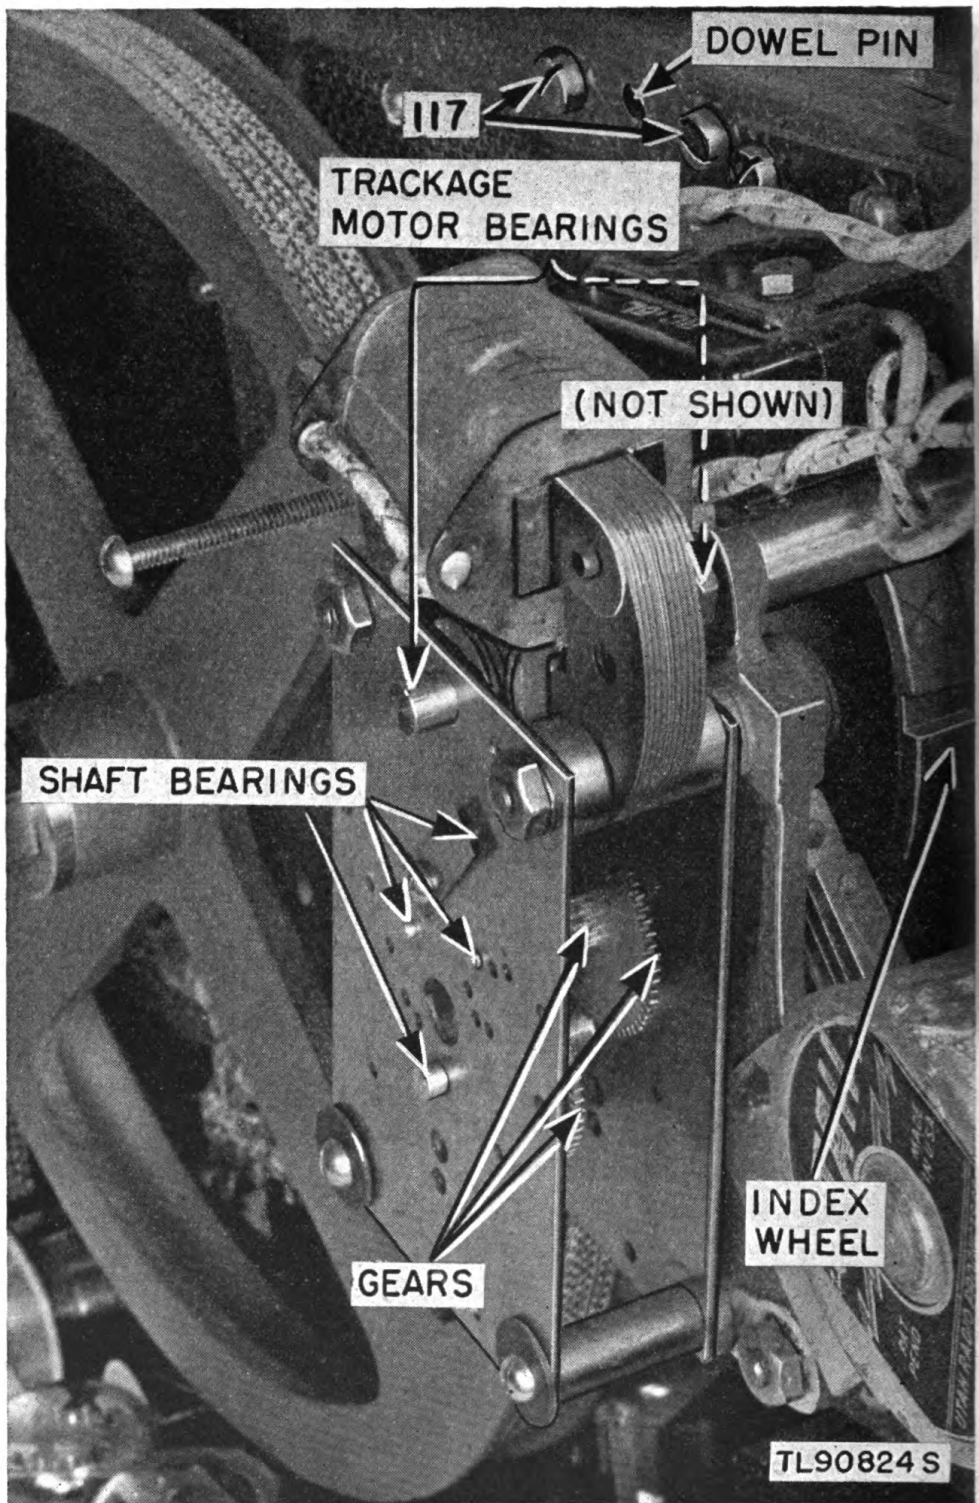

Figure 29. Lubrication points on trackage (carriage) motor.
(m) *Trackage-motor assembly (on Sound Recording Set AN/UNQ-1 only)* (fig. 29).
(3) *Carriage (trackage) motor assembly (on Sound Recording Set AN/UNQ-1 only)* (fig. 29). Disassemble trackage motor. (See par. 89.) Clean all gears, bearings, and bearing surfaces with a soft brush and SD. Allow to dry before lubricating. In addition to the points indicated in (3) (m) above, lubricate as follows: